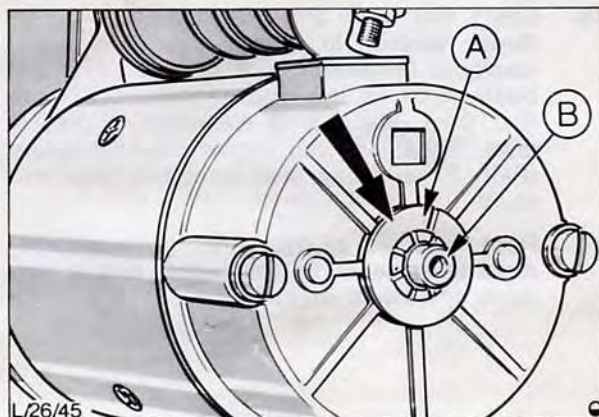

Fig. 90. Thrust washer location
16. Fit thrust washer, Fig. 90, on commutator end of armature shaft and slide armature through yoke into commutator end plate. Drive new spire retaining clip over armature shaft far enough to hold shaft.